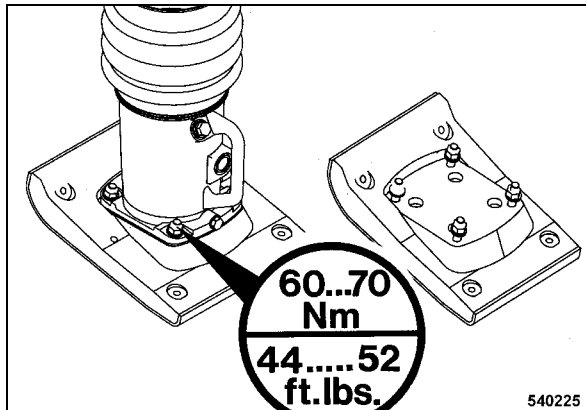

Fig. 27
- After changing the tamper foot plate (Fig. 27) tighten the 4 fastening screws with a tightening torque of 60 to 70 Nm (44 to 52 ft.lbs).